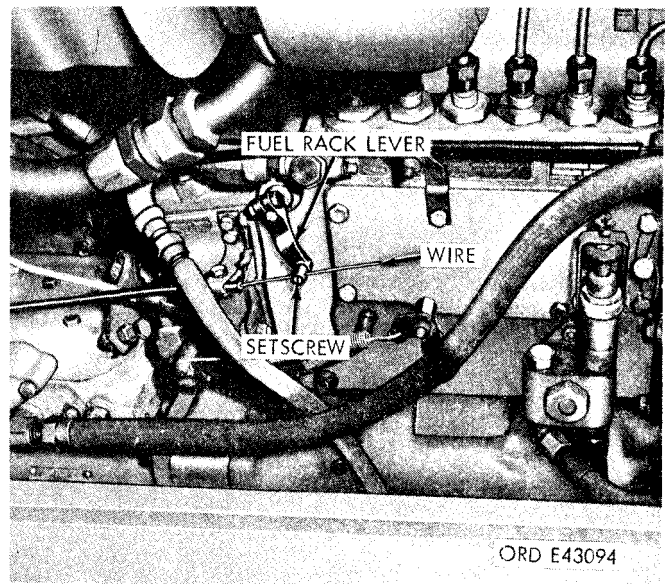

Figure 2-79. Disconnecting fuel shutoff control wire-diesel only.
(1) Loosen the setscrew securing the control wire to the fuel rack lever (fig. 2-79).
- (3) String the control cable wire through the cowl opening to the fuel rack lever. Secure the wire to the lever by tightening the setscrew (fig. 2-79).